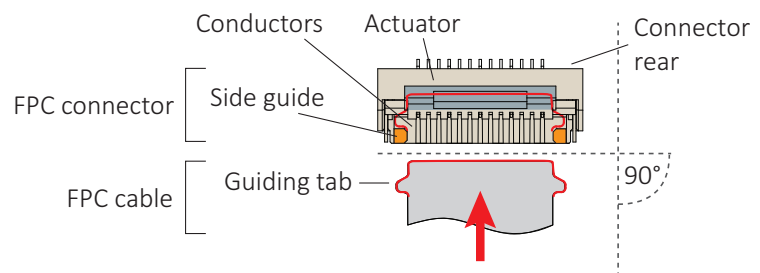
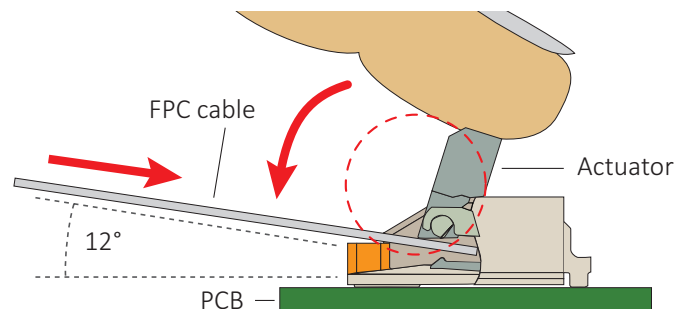

Figure 21: FPC cable and FPC connector
Figure 22: Engaging the FPC cable in the FPC connector
2. **Ensuring proper cable direction between host and camera**, take the FPC cable with conductors facing the FPC connector conductors (see Figure 21).
At a horizontal angle of 90° to the connector's rear (see Figure 21) and at a vertical angle of 12° to the PCB (see Figure 22), slowly insert the FPC cable into the actuator...
4. ...until cable guiding tabs are caught between connector rear and side guides (see Figure 21). Pull the cable slightly to ensure guiding tabs are properly engaged.
5. Holding the FPC cable in position, flap down the actuator to closed position (see Figure 22).